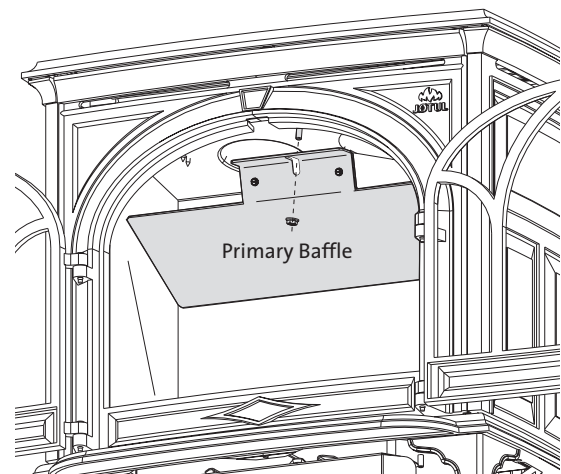

Figure 21.
- **Use of 4" x 6 5/8" vent horizontally terminated, requires that the Secondary Exhaust Baffle be removed.** See figs. 21 - 22.